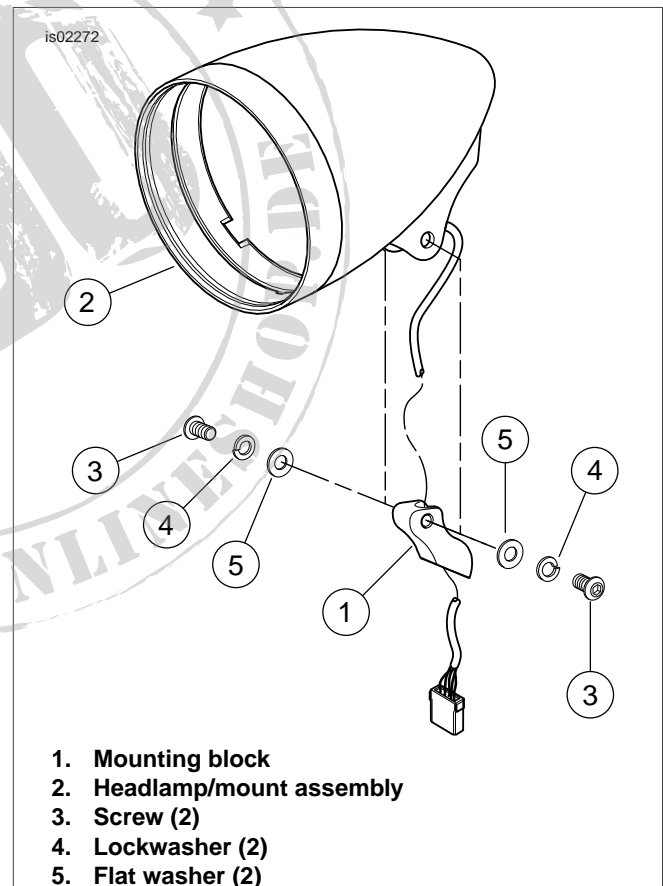

Figure 5. Install Billet Headlamp Mounting Block on Headlamp/Mount Assembly
4. See Figure 5. Install mounting block (1) to headlamp/mount assembly (2) using two 3/8-16 x 3/4 in. screws (3), lockwashers (4), and flat washers (5) from kit. Align mounting block and tighten hardware until snug.
7. See Figure 5. Place a protective covering between top of headlamp shell and bottom of upper bracket (Softtail and Dyna) or top triple clamp (VRSC) (not shown). Tilt headlamp shell back until it just misses bottom of upper bracket/top triple clamp. Tighten screw (3) to 31 ft-lbs (42 Nm).